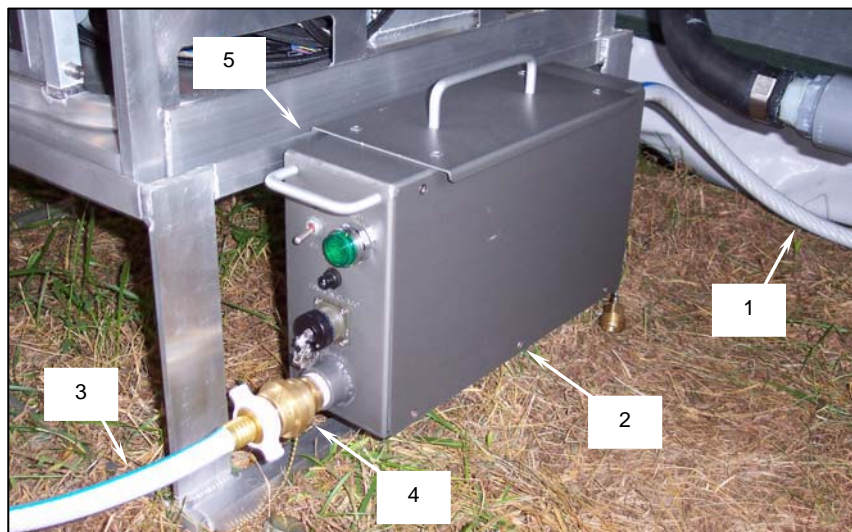

Figure 2. Removing the Sink Fill Pump Assembly.
- b. Disconnect the 50-ft water supply hose (**Figure 2, Item 1**) from the potable water supply.
- c. Disconnect the 50-ft water supply hose (**Figure 2, Item 1**) from the back of the sink fill pump assembly (**Figure 2, Item 2**) and drain the hose toward the source end.
- d. Disconnect the 15-ft sink fill hose (**Figure 2, Item 3**) from the vacuum breaker (**Figure 2, Item 4**) at the front of the fill pump assembly and secure the cap to the vacuum breaker.
- e. Lift the sink fill pump assembly (**Figure 2, Item 2**) off the sink assembly base rack (**Figure 2, Item 5**).